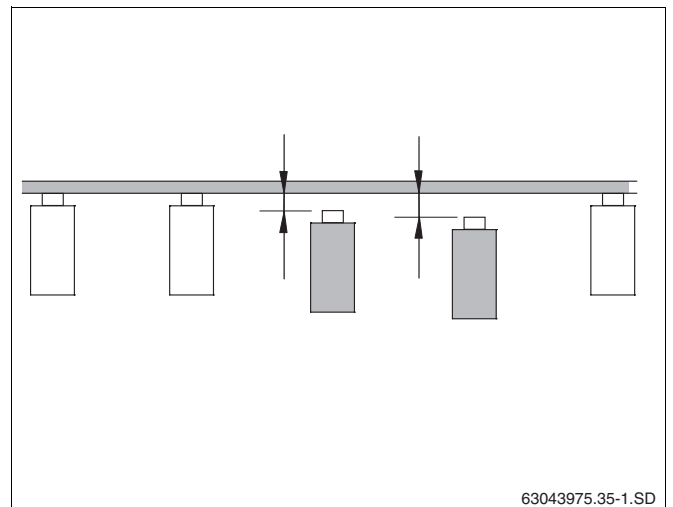

Fig. 12 Levelling the joists
- ▶ If the joists are at different levels, they must all be levelled (Fig. 12).